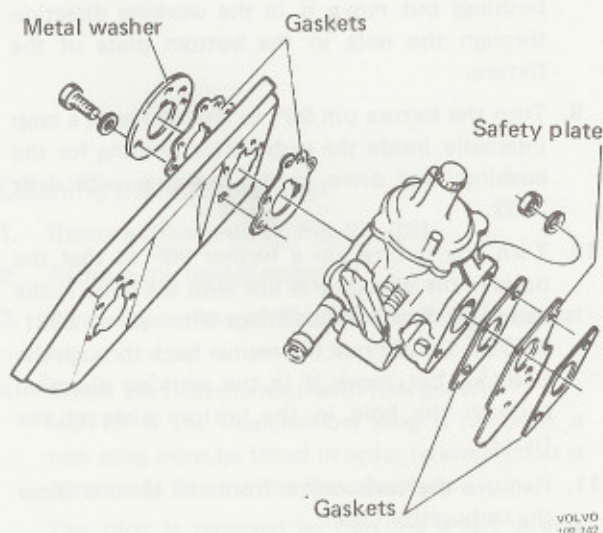

Fig. 23-33. Installing the carburettor
1. Clean the gasket surface. Install the protecting plates, new gaskets, one on each side of the plates, and the carburettors, Fig. 23-33.